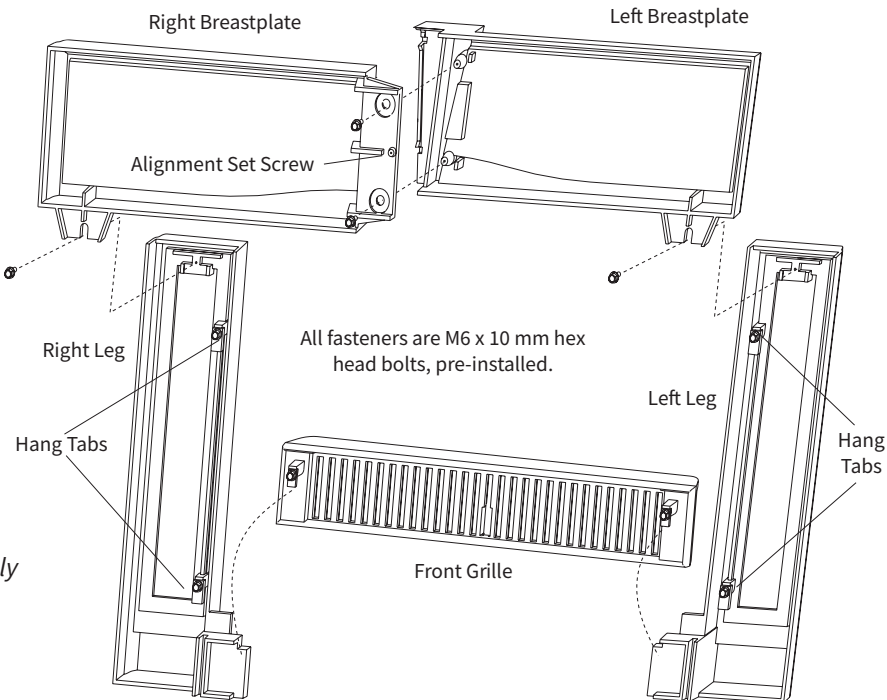

Figure 3.18.
1. Layout the parts. Place the castings face down on a protective surface such as carpeting, blankets or a sheet of cardboard. See fig. 3.18.
3. Attach the Leg plates. The Legs must be oriented with the Hang Tabs on the inside edges as shown in fig. 3.18. Use the two remaining M6 x 12 hex head flange bolts to attach the Legs to the Breastplate assembly.